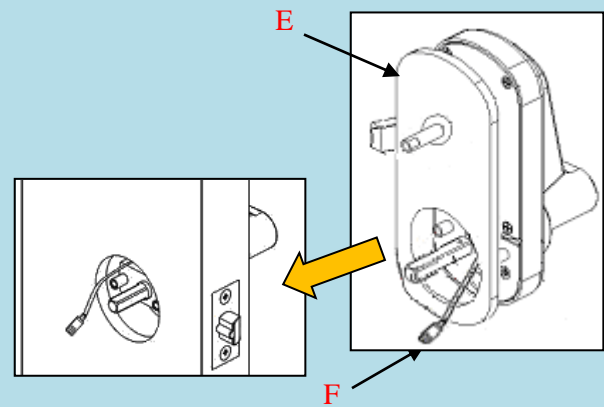

Fig 4
Place the front lock housing onto the door, with the rubber gasket (E) between the door and lock housing. Feed the power plug (F) through the hole (Fig 4).